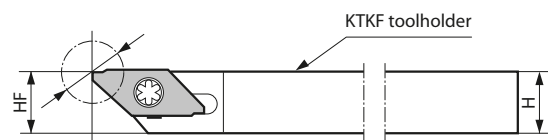

Fig. 2 When installing TKF-AGT/TKF-NB
2) If the 1 mm adjustment is not possible, use the TKF-AGT/TKF-NB. (Ref. to Fig. 2)